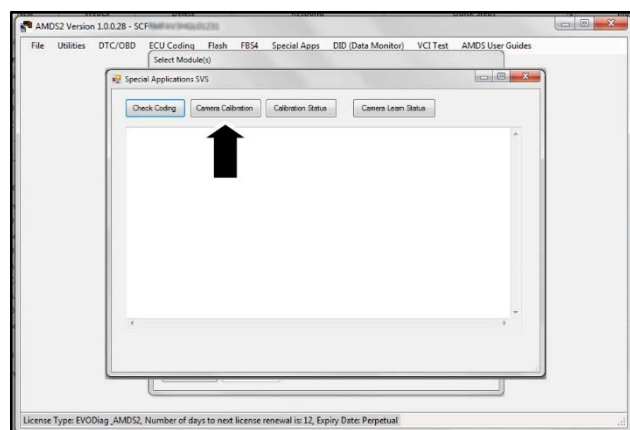

Figure 4
6. Select "Camera Calibration" to begin the camera calibration procedure (refer to Figure 4).